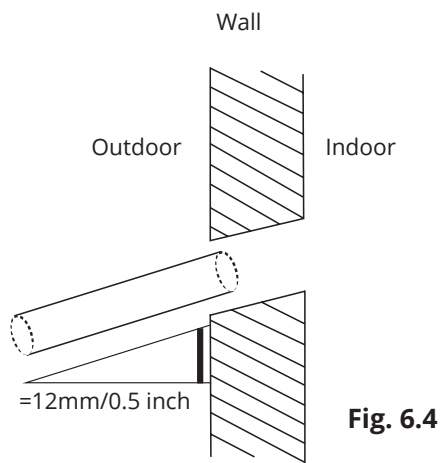

Fig. 6.4
- Using a 65mm (2.5in) or 90mm (3.54in) core drill, drill a hole in the wall. Make sure that the hole is drilled at a slight downward angle, so that the outdoor end of the hole is lower than the indoor end by about 12mm (0.5"). This will ensure proper water drainage (See Fig. 6.4). Place the protective wall cuff in the hole. This protects the edges of the hole and will help seal it when you finish the installation process.